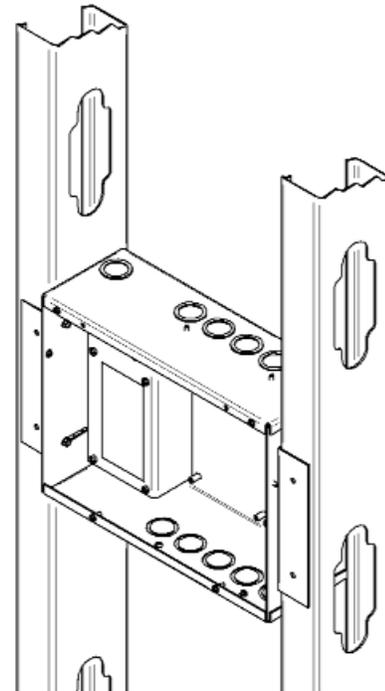

Figure 16: Back Box Mounting
2. Remove cardboard dust cover and insert alarm panel back box into wall opening. Secure with fasteners suitable for vertical supports (Figure 16).